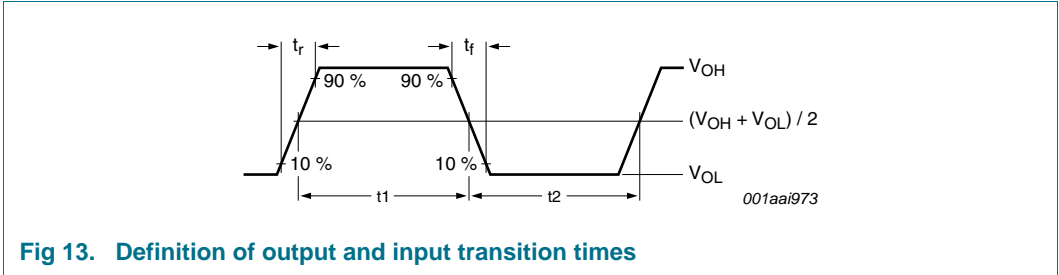

Fig 13. Definition of output and input transition times
- [5] The transition time and the duty factor definitions are shown in Figure 13 on page 19; $\delta = t1 / (t1 + t2)$.